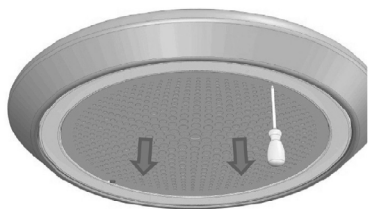
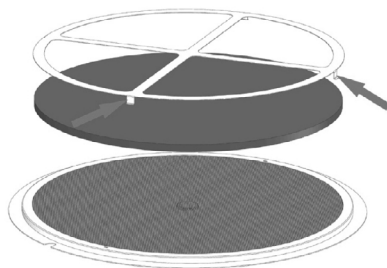

FIG.15
FIG.16
- › An accurate maintenance guarantees good functioning and long lasting performance. Particular care must be made when handling the grease filter. The grease filter is fixed through magnets, therefore it is sufficient to insert a hand tool or the tip of a knife in the dedicated opening and push upwards in order to pull the filter out of its place (Fig.15). In order to remove the filter from the hood, unhook the two security cables, opening their snap-hooks. The active charcoal filter has to be removed after the extraction of the grease filter by pushing the specific handle (Fig.16).